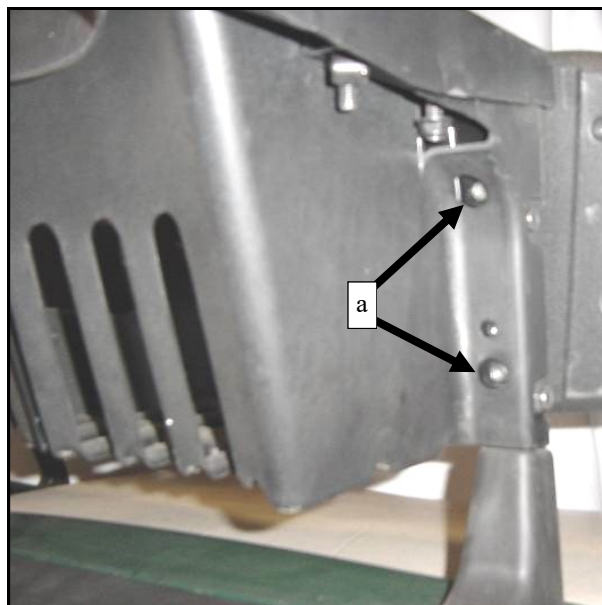

Fig. 11.3 (view taken from rear of passenger’s side)
11.3 If further adjustment of the door is required, loosen the two seat bolts marked “a” in fig. 11.3. Slide the rear of the side frame assembly in or out and retest the door seal. Adjusting this area can sometimes improve the seal in the back of the door.